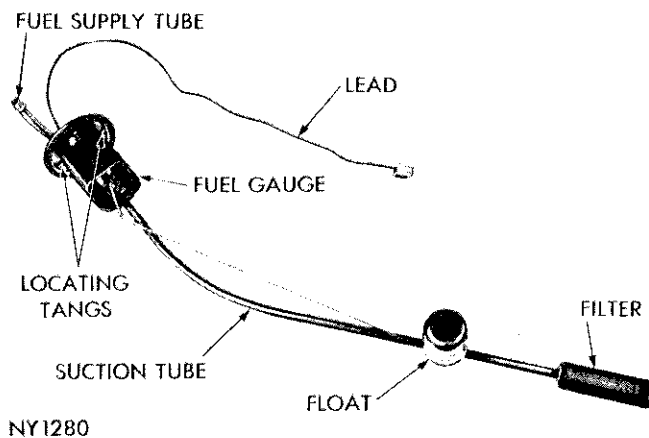

Fig. 3—Fuel Gauge (Tank Unit)
- (1) Drain tank into a safety can, then disconnect fuel line and wire lead to gauge unit.
- (2) Disconnect vent tube at hose connection at leading edge of tank.
- (3) Remove screw that attaches filler tube bracket to rear crossmember.
- (4) Remove nuts that hold ends of fuel tank hold down straps to frame. Lower front end of tank far enough to disengage filler tube from rear panel and slide out from under vehicle.
- (5) Remove tank gauge unit, using spanner wrench Tool C-3582 (Fig. 3). Check rubber grommet around filler tube. If cracked or deteriorated, install a new grommet at reassembly.